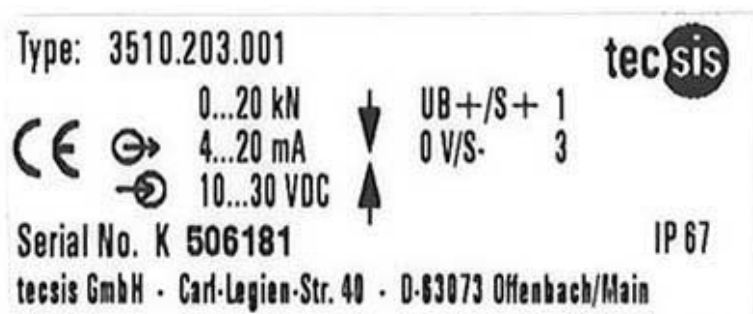

Fig. 1 Name plate
- The output signal ($c=1-2\text{mV/V}$, $4...20\text{mA}$, $0...20\text{mA}$, $0...10\text{V}$) is noted on the name plate (Fig. 1). The connection assignments are also noted on the name plate and can also be found in the section entitled "Electrical connection". The polarity must be correct at all times.